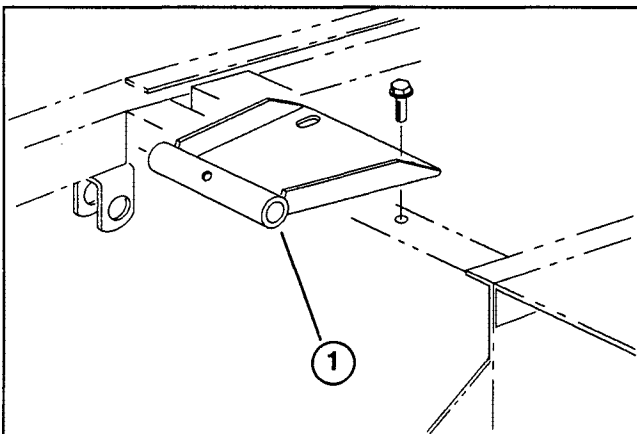

Figure 5
11. Mount seat pivot bracket to frame with (2) flange screws supplied in kit (Fig. 5).
13. Mount seat pivot bracket to frame with (2) flange screws supplied in kit (Fig. 5)